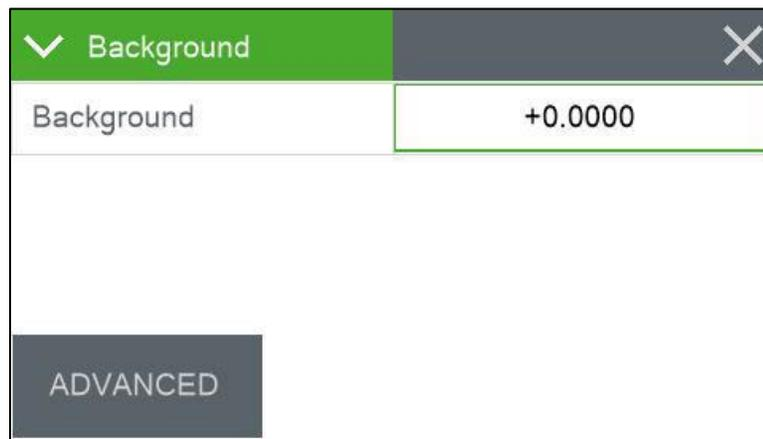

Figure AR-32. Met One E-BAM Plus Background Screen
24. Request the operator to navigate the display panel to the Background screen (Figure AR-32). Record the Background coefficient on the BAM worksheet, and note the completed on date for the Background check. That date should be provided by the station operator.